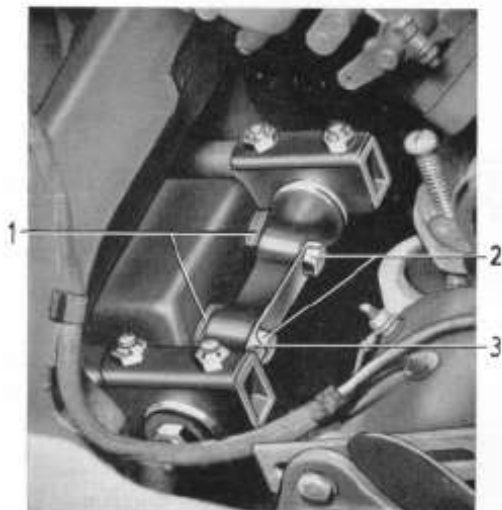
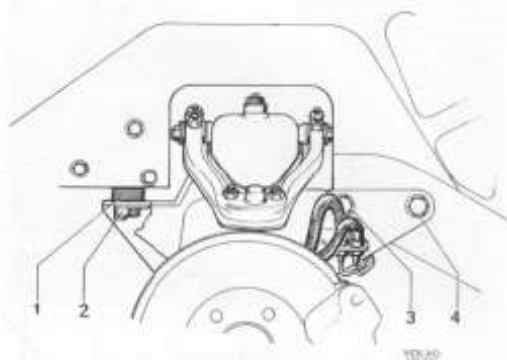

Fig. 6-7. Adjustment parts at wishbone shaft
Fig. 6-8. Adjustment parts at side-member
The caster for each wheel should be within the tolerance range 0° to $+1^\circ$, that is, it should be min. 0° and max. 1° positive. However, the difference between both the sides should not exceed $1/2^\circ$. The caster can be adjusted either with shims (3, Fig. 6-7) at the wishbone shaft or with shims (2, Fig. 6-8) at the side-member. The first alternative is selected when the camber is also to be adjusted, and the second when only the caster is to be seen to.
Bend up the lock washer (3, Fig. 6-7) and slacken the attaching bolts (2) so much that the shims (1) can be lifted up. The caster is adjusted, for example, to **positive** either by **adding** shims to the **rear** bolt or by **removing** shims at the **front** bolt. The shim thicknesses required to alter the angle
Raise the front end and place props under the body at the jack attachments. Release the attaching bolts (2, 3 and 4, Fig. 6-8). Add or deduct the number of shims required in order to get the proper caster. Shims for this purpose are available in thicknesses of 2 and 3 mm (0.08 and 0.120"). The diagram in Fig. 6-9 shows how much the caster is to be altered. The same alteration should be made on both sides to avoid extra tension in the front axle member. Tighten the bolts before making a new measurement.
When adjusting bend the lock plate (3, Fig. 6-7) up and slacken the attaching bolts (2) so much that the shims (1) can be lifted up. Thereafter